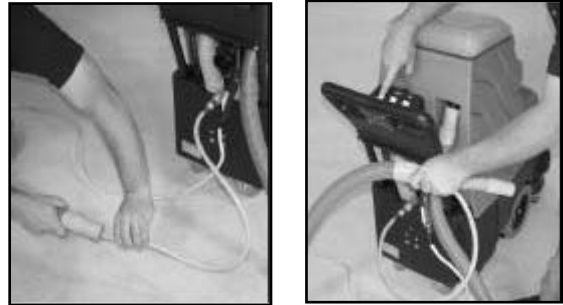

Figure 17. Place End of Utility Hose in Vacuum Hose
3. Place one end of the utility hose in one end of the vacuum hose and seal the hose with your hand (see Figure 17).